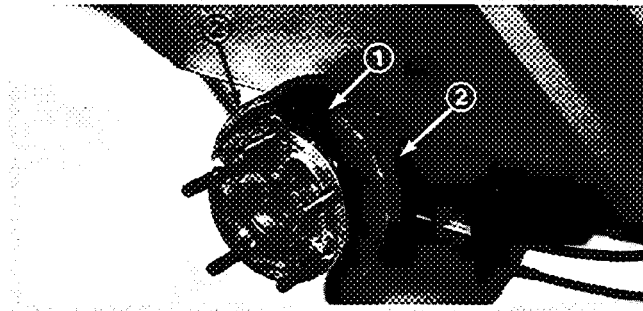

Figure 25
7. Using a brake adjusting tool or screwdriver rotate star-nut (Fig. 25) until brake drum (Fig. 24) locks because of outward pressure of brake shoes (Fig. 25).